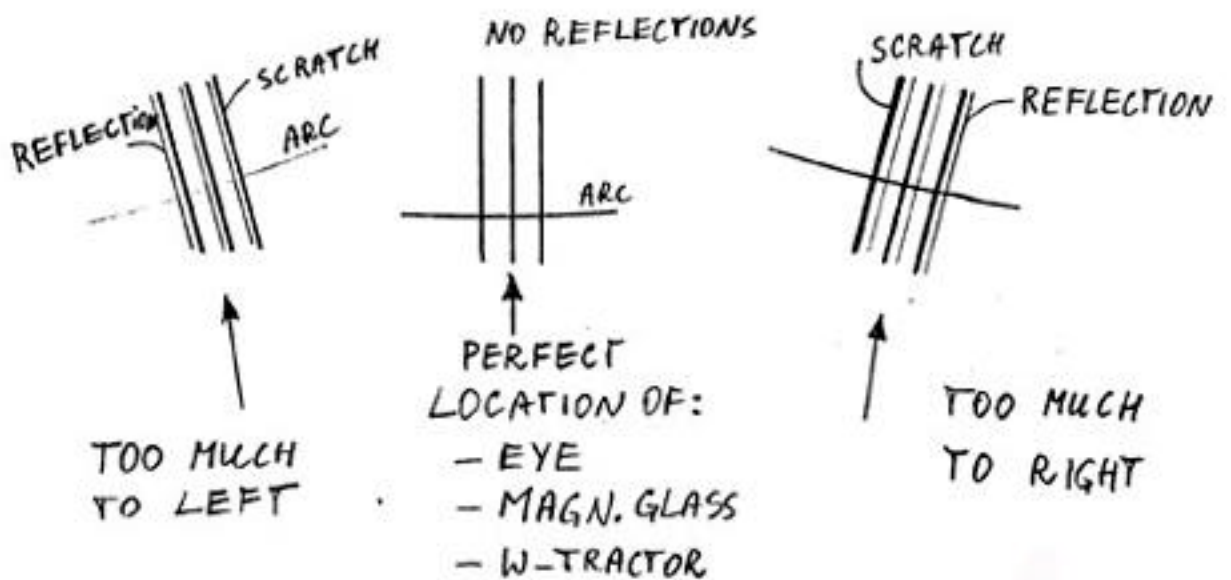

Fig. 1
2. [Fig. 1] Practice this step with a flashlight, WallyTractor and magnifying glass (x4 power): Look at any 3 of the small parallel lines on the mirror using plenty of bright light. When you see only 3 parallel lines (i.e., no reflections of lines, making it appear to be 6 lines) then you have the perfect location of your eye/magnifying glass with respect to the WallyTractor. This will be very important in the alignment of the cantilever.